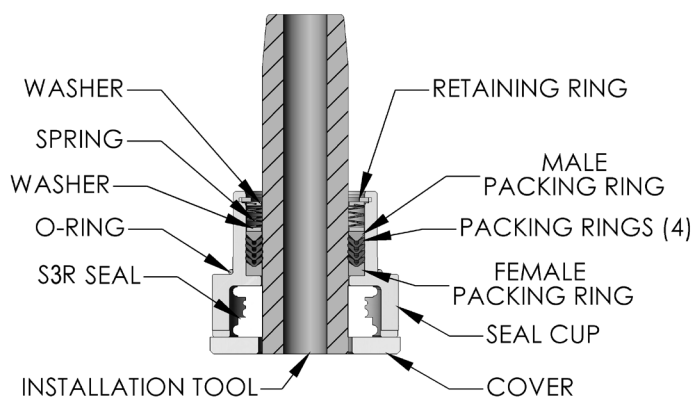

Figure 12a – Seal Cup Assembly
- Install the S3R seal in the seal cup as shown in figure 12a. Place the S3R seal on the packing installation tool in the order shown in figure 12b, with the upper segment toward the tapered end of the installation tool. Insert the installation tool, with the S3R seal, into the seal cup, with the tapered end toward the packing rings. Place seal cup cover on seal cup and secure with two capscrews